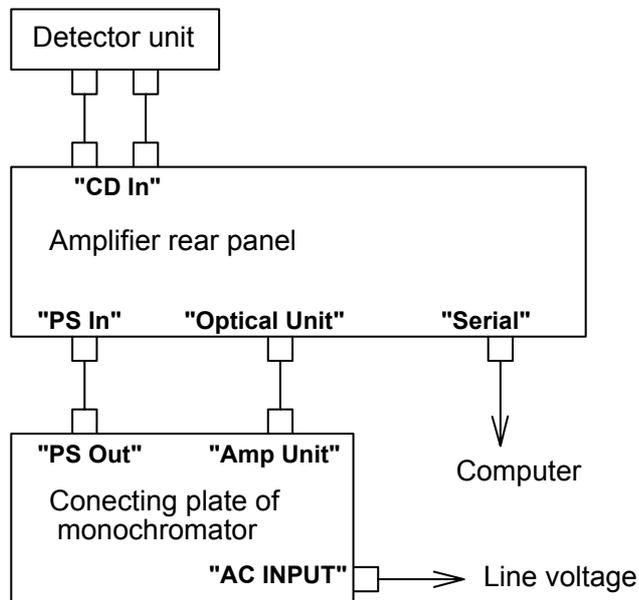

Fig. 2.7 Connection of cables
- 3) Plug the cables according to Fig. 2.7.